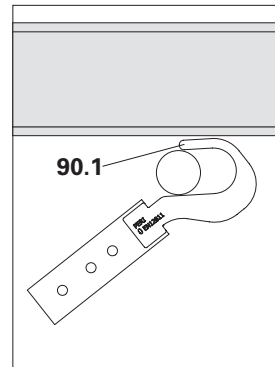

Fig. A11.01a
1. Set Adapter Suspended Scaffold UEH at an angle of approx. 45° and push claws (90.1) between the scaffolding tube and flange support. The round inner contour of the adapter suspended scaffold must lie against the scaffolding tube. (Fig. A11.01a)